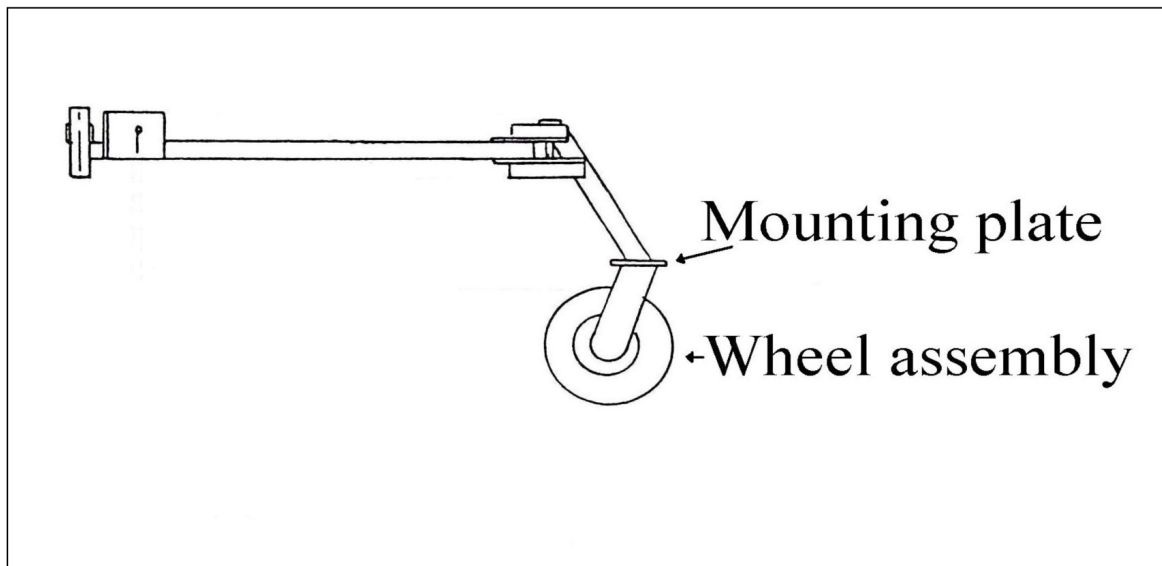

Figure 2: Schematic of wheel assembly attached to mounting plate, side view
- Use four (4) $\frac{1}{2}$ " bolts, washers and nuts
1. Place the wheel assembly against the mounting plate (see Figure 2)